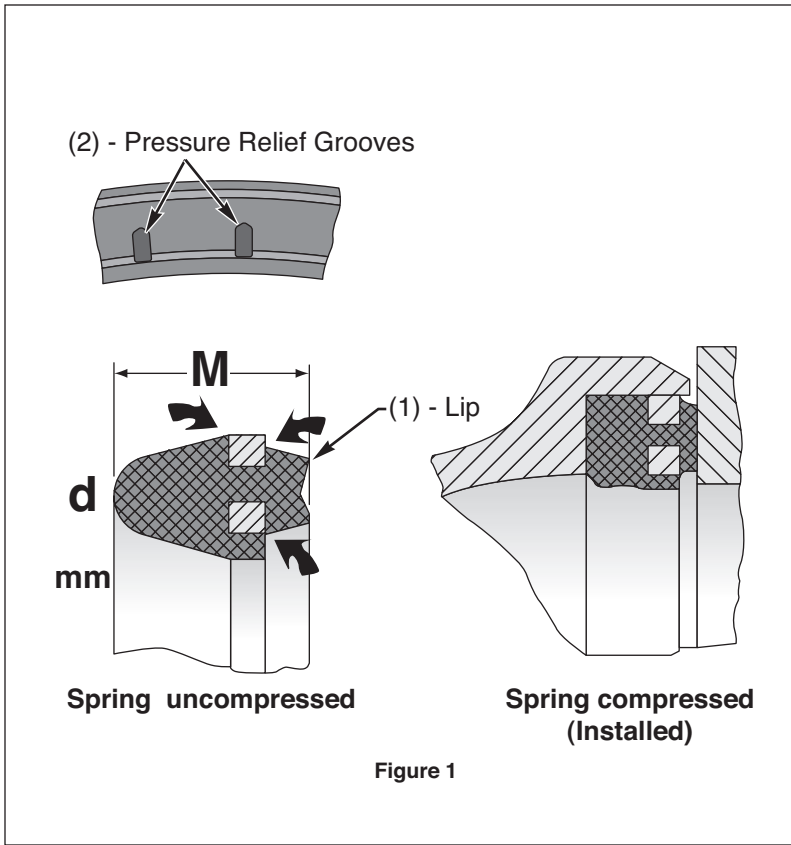

Figure 1
- A considerable formation of cracks are found in the areas marked by arrows. (fig. 1) This problem is very rare.
- Lip (Item 1, fig. 1) is completely worn to the point that the pressure relief grooves (Items 2, fig. 1) are no longer recognizable.